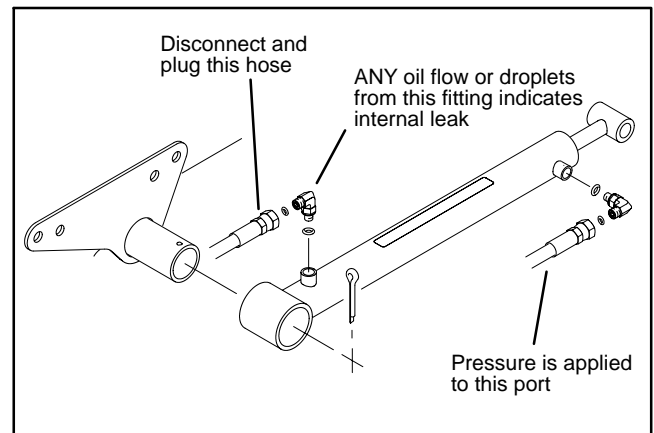

Figure 22
3. Disconnect hydraulic hose from base end of cylinder and install a steel plug with O-ring seal in the hose (Fig. 22). Clean any remaining oil from cylinder port.